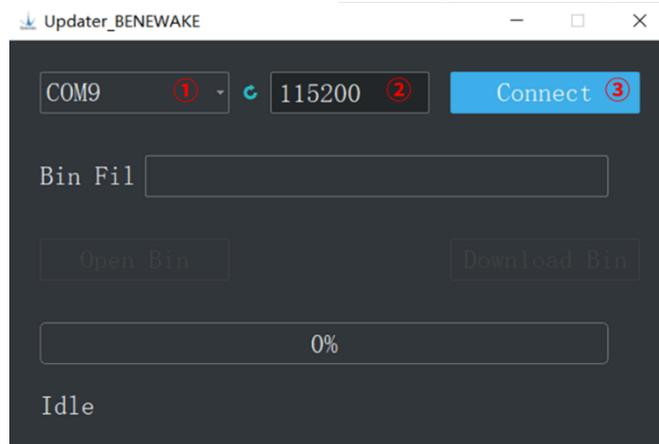

Figure 6-1 Connect the TF02-Pro with the software
- 1) Run Updater\_BENEWAKE.exe, Select right port, here is "①COM9". Input the right baud rate in "② 115200" and click "③ CONNECT" to connect the TF02-Pro with the software. As shown in Figure 6-1.